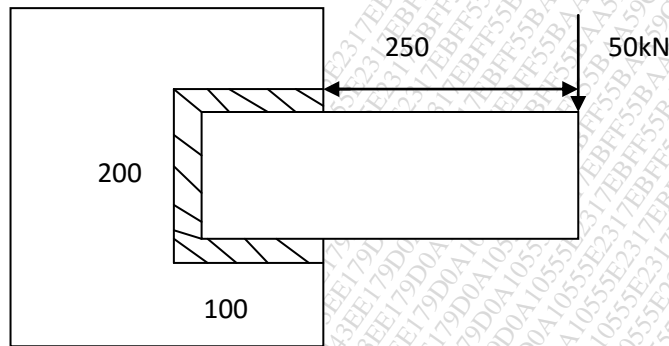

Fig.2
- Q.7 A welded connection of steel plates is shown in the figure 2. It is subjected to an eccentric load of 50kN. Determine the size of weld if permissible shear stress in the weld is not to exceed 80N/mm^2 . 12